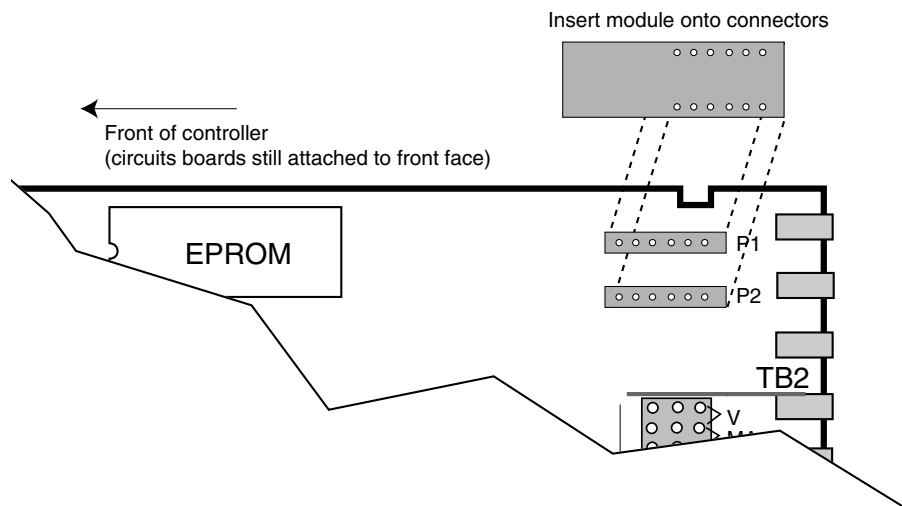

Figure 4.4
4. Orient the Communications Module as shown, and attach it to Connectors P1 and P2 as shown in Figure 4.4.